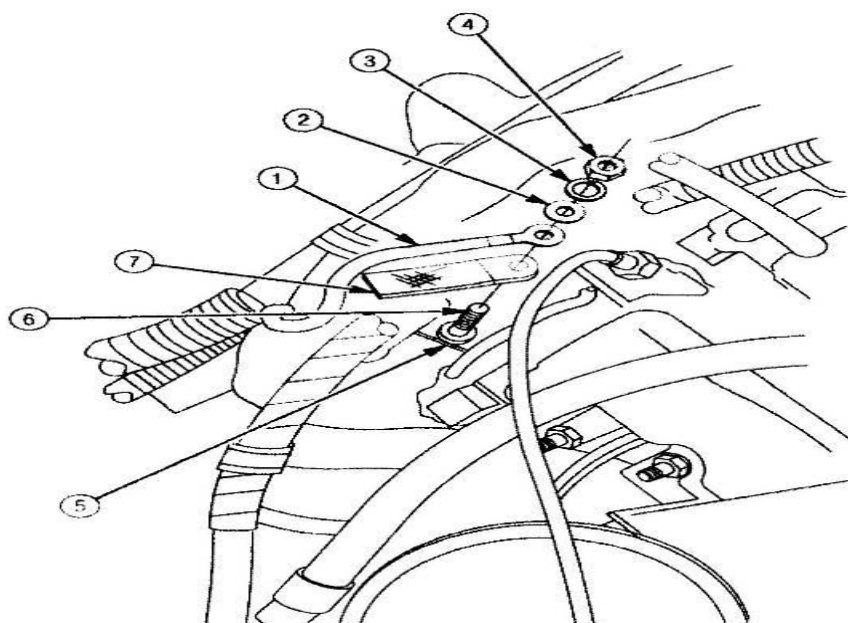

Figure 18
r. Removal of Alternator Ground Strap: Refer to TM 9-2320-387-24-1, Chapter 4, Task Para 4-5, Page 4-10 and **Figure 18** contained in these instructions.
(1) Remove nut (4), lock washer (3), washer (2), cable (1), and ground strap (7) from stud (6) on engine coolant crossover (5). Discard lock washer (3) and ground strap (7), and retain all other parts.